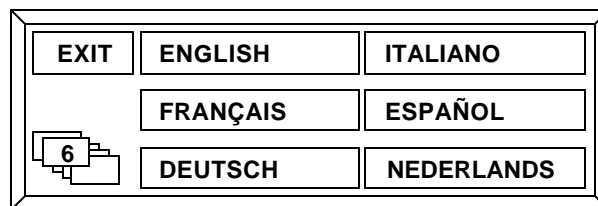

Figure 22. The Level-6 Menu Screen
- Level-3 menu screen and associated screens—Figure 22 (Page 37)